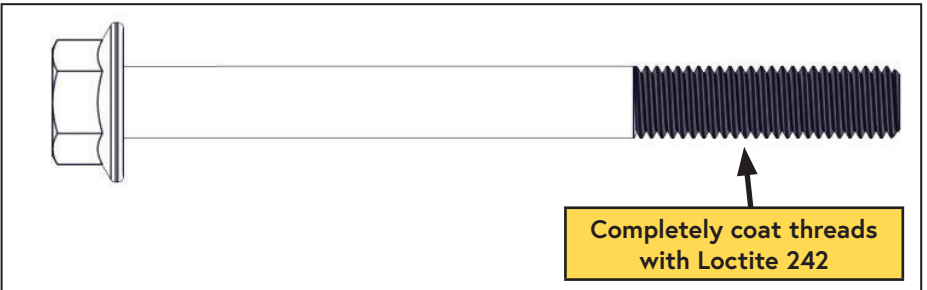

Figure 33 — VMAC crank pulley bolt
- ☐ Completely coat the threads with Loctite 242 (blue) and install the supplied VMAC crankshaft bolt, washer, and spacer finger tight (Figure 33).